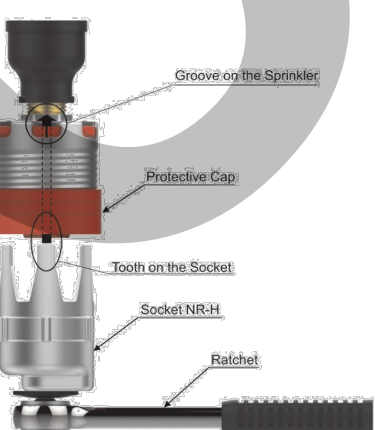

Figure 4: Ratchet & Socket
Step 2: With pipe thread sealant applied to the threads, hand tighten the sprinkler into the sprinkler fitting. Then tighten it with the Socket NR-H or Ratchet (3/8" drive) & Socket NR-H Combination (Ref. Figure 4). The teeth of the Socket must fit perfectly with the grooves on the Sprinkler for proper installation (Ref. Figure 4).